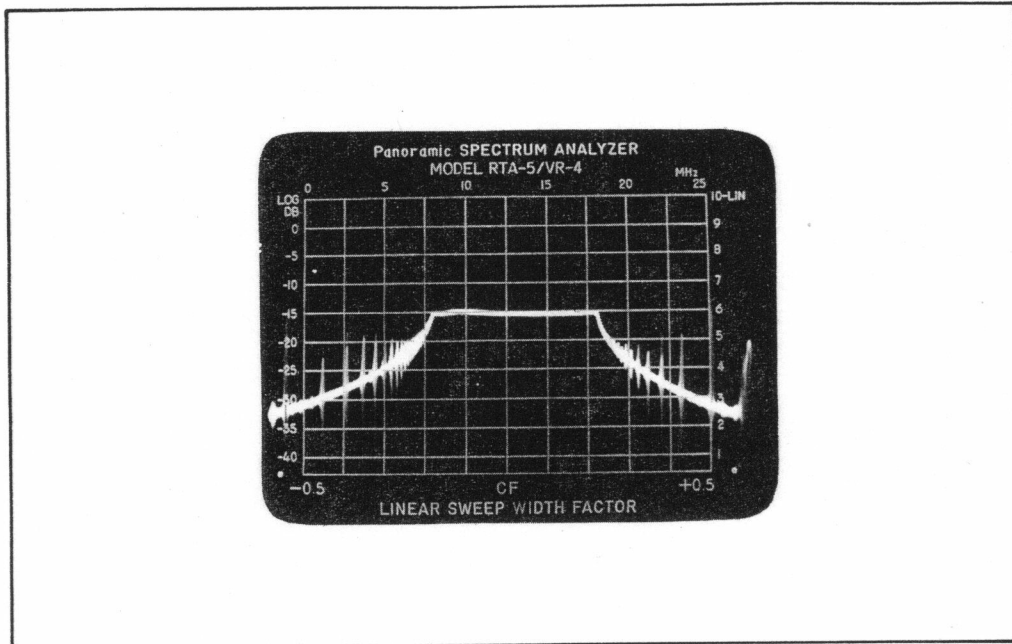

Figure 2-7. Signal Display in Search/Lock Mode.
- y. Adjust the SEARCH/LOCK control so that the signal of interest is peaked (see figure 2-7).